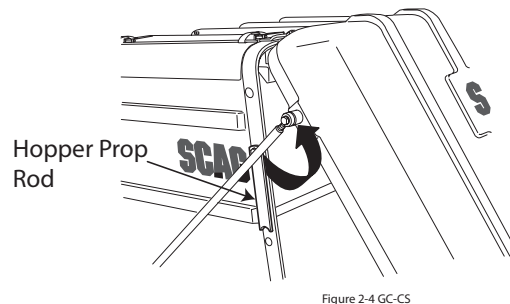

FIGURE 2-4
6. When service is needed inside the hopper, disengage the deck drive and allow all moving parts to come to a complete stop, shut off the engine and apply the parking brake. Rotate the hopper door prop rod upward until it contacts the hopper door. This will prevent the hopper door from moving until the service is complete. See Figure 2-4.